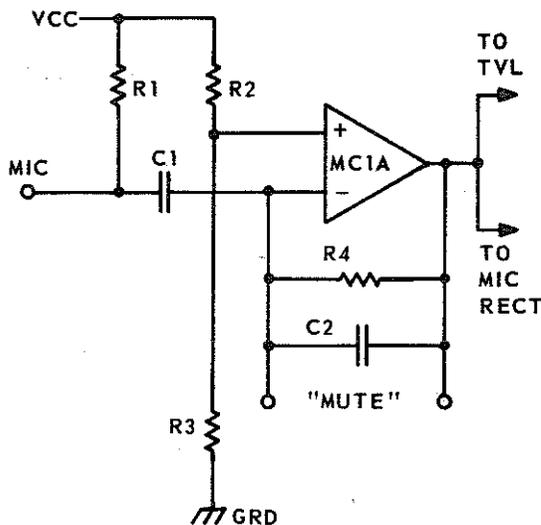

Fig. 5 — Preamplifier Configuration
3.11 The QUX1A Electret microphone is connected to a JFET which serves as a current source for the preamplifier MC1(A) (Fig. 5). An incoming microphone signal is passed to the (-) input of the MC1(A) where it is amplified approximately 36 dB (gain determined by R4 and JFET resistance of 1.5 k) to ensure adequate levels at the microphone rectifier and the transmit variolossler. Low frequency rolloff at 160 Hz is provided by C1 and R1; operating bias for MC1(A) is provided by R2 and R3; and high frequency rolloff at 3.6 kHz is provided by C2 and R4, which also reduces random noise.